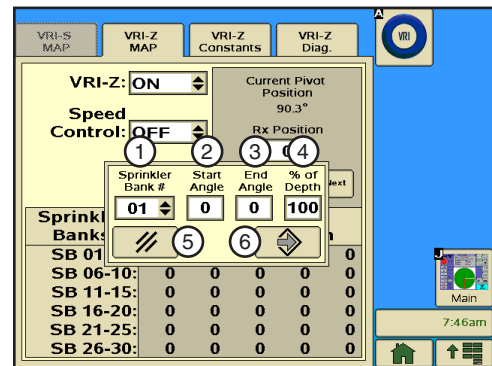

Figure 56-2 1. Sprinkler Bank # Menu
3. Select the **Sprinkler Bank #** field, and choose the sprinkler bank number to add. Refer to Figure 56-2.